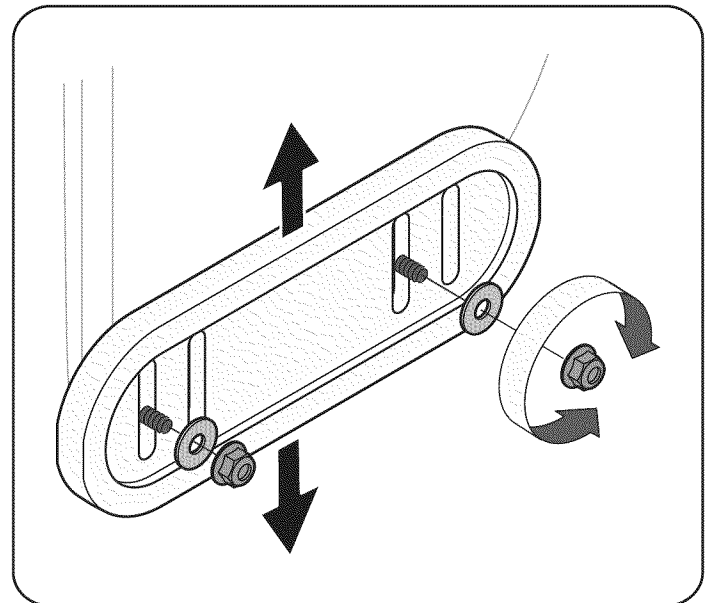

Figure 13
1. Loosen the four hex nuts (two on each side) and carriage bolts. Move skid shoes to desired position. See Figure 13.